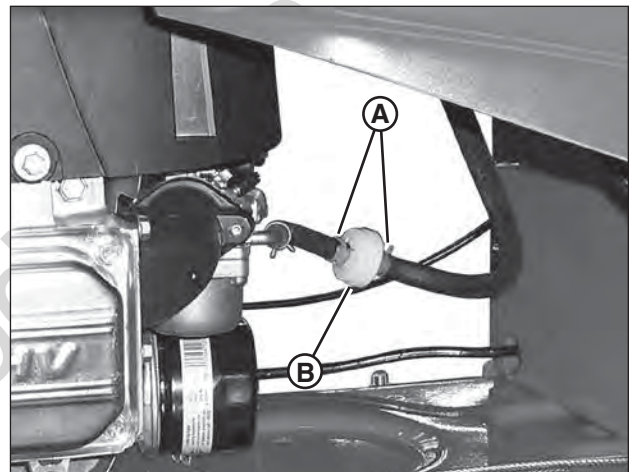

Figure 28: Replacing the fuel filter
3. Using pliers, slide the hose clamps (B, Figure 28) approximately 1" away from the fuel filter (A).